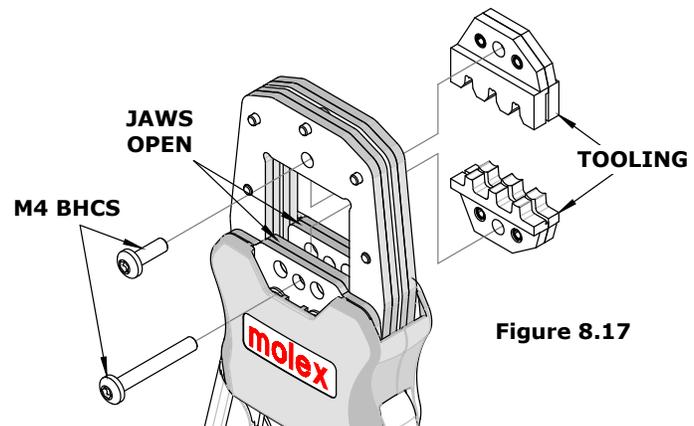

Figure 8.17
3. Remove the crimp dies as shown in Figure 8.17.